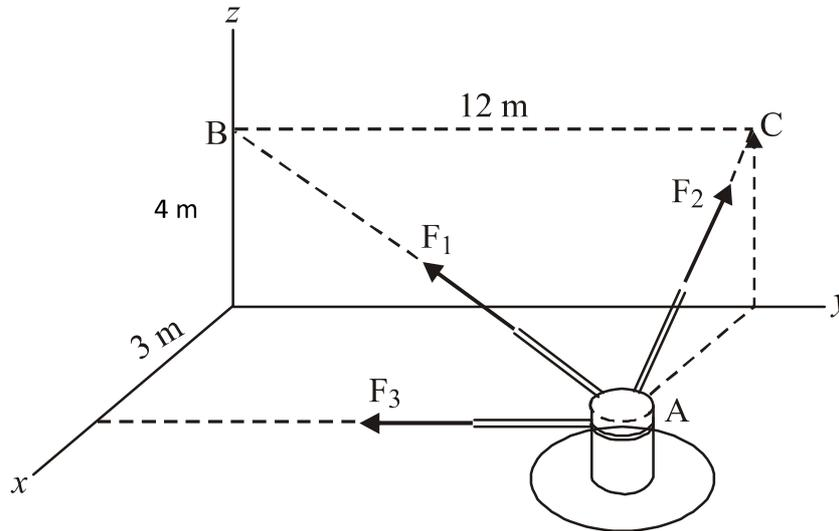

FIG.1
11. Three ropes are attached to the post at A (Fig. 1). The forces in the ropes are $F_1 = 260$ N, $F_2 = 75$ N, and $F_3 = 60$ N. Determine the magnitude of the force R that is equivalent to the three forces shown in the figure. 1